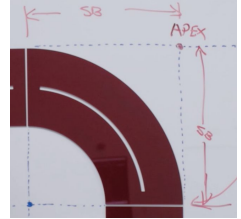

Figure 1.3
- **Setback (SB):** Setback is the distance from the tangent point of the bend radius to the apex. Each flange has its own setback, which is later used in bend allowance and bend deduction calculations. It helps determine how much flat material is required before bending (see Figure 1.3).